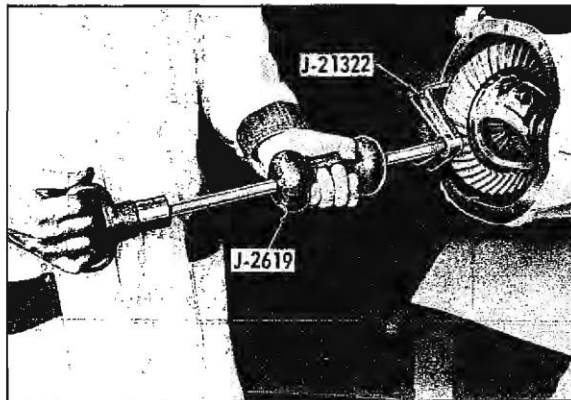

Fig. 4-24 Removing Differential Case
2. Remove two ring gear to case assembly bolts. Install ring gear and case remover J-21322 and slide hammer J-2619 as shown in Fig. 4-24.